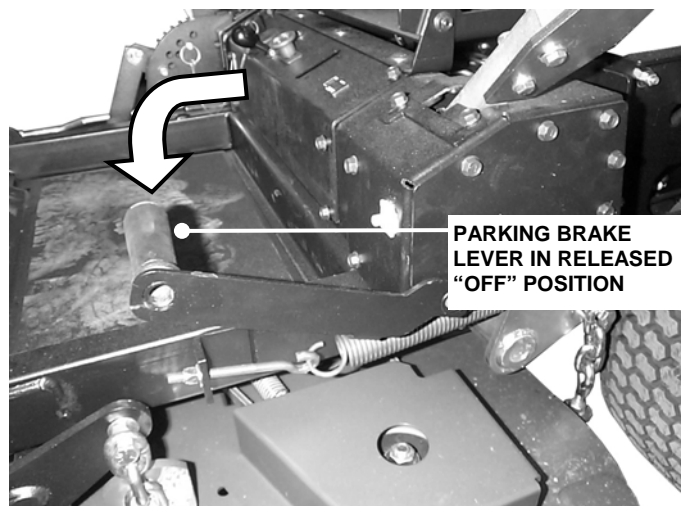

FIGURE 3.8
2. Release parking brake by pushing parking brake lever forward to the released position. See Figure 3.8.